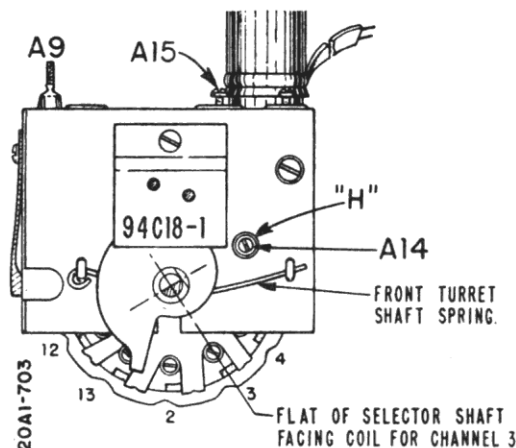

Figure 33. Front View of 94C18-1 Tuner.
- Set Sharp Tuning control at half rotation by rotating it approximately 150° as shown in figure 33.
- When using a signal generator**, follow steps (a), (b), (c), (d) under "Individual Channel Adjustments Using Signal Generator and VTVM", then adjust A15 (figure 33) for zero VTVM reading between a positive and a negative peak.
- When using a television signal**, set the Channel Selector knob for a station and adjust controls for normal picture and sound. Set Sharp Tuning control at electrical center by rotating approximately 150° or half rotation as shown in figure 33. Note position of dielectric rotor. Then adjust A15 (figure 33) for best sound and clearly defined picture.